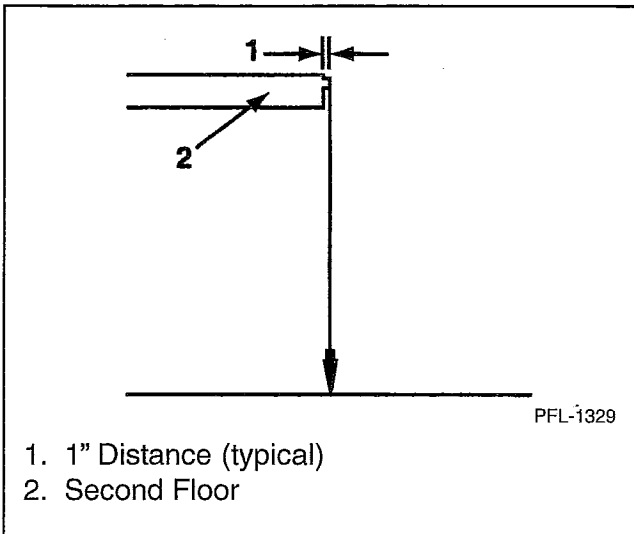

Figure 2
1. The load/unload edges of the carriage should be 1" away from the edge of the upper floor level; and if there is a pit, the same dimensions apply (unless otherwise noted on GA). See Figure 2.